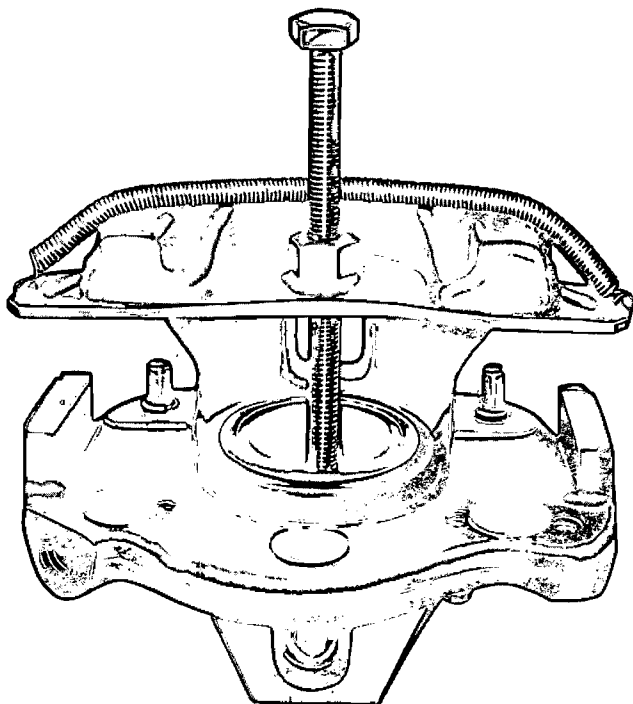
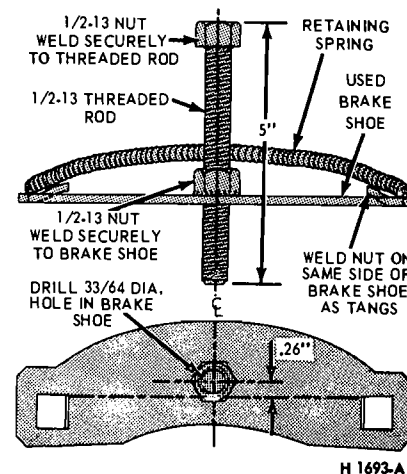

FIG. 7—Installing Piston Retracting Tool
FIG. 8—Piston Retracting Tool Dimensions
in the caliper with the brake shoe lances positioned in the slots in the caliper outer legs and retract the piston (Fig. 7).
The piston retracting tool can be fabricated from a discarded outer brake shoe and a threaded rod. Refer to Fig. 8 for tool fabricating details.
3. Install the piston retracting tool in the caliper with the brake shoe lances positioned in the slots in the caliper outer legs and retract the piston. The piston retracting tool can be fabricated from a discarded outer brake shoe and a threaded rod. Refer to Fig. 8 for tool fabricating details. When using the piston retracting tool, turn the threaded rod one half turn at a time and pause to permit the piston to move in the seal. Reduce the time interval to ensure bottoming of the piston. If the piston is not fully bottomed, the spacing between the linings is insufficient to assemble the brake shoe and caliper assembly over the rotor. Use a cloth to catch brake fluid from the caliper bore (See Fig. 7).